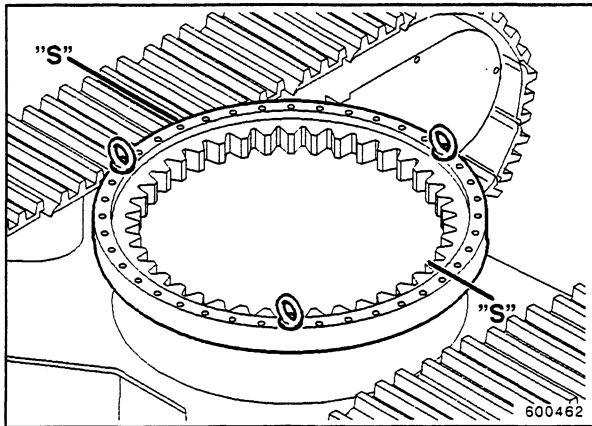

Fig. 7
- Take the new swing bearing into the lifting tackle. Turn inner and outer raceway until the "S"-mark on the outer raceway is at 90 degrees to the travelling direction, and the "S"-mark on the inner raceway is opposite (Fig. 7).